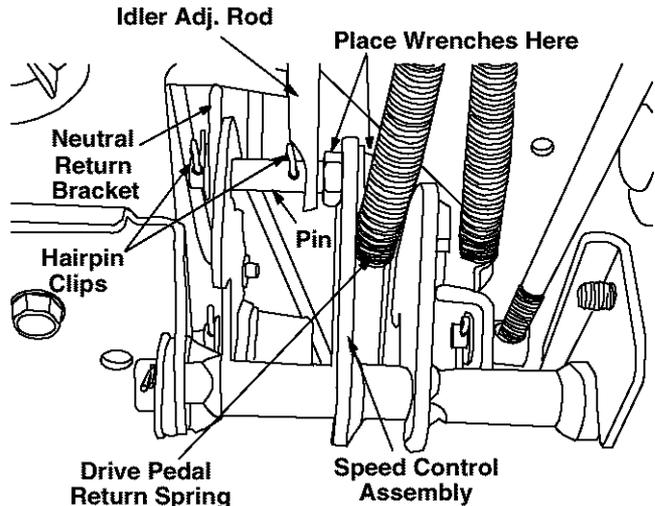

Figure 12
- Locate the speed control assembly on the underside of the steering support bracket. See Figure 12 .
- Remove both hairpin clips from the pin which is fastened to the speed control assembly (be careful not to lose the small flat washers on the pin). See Figure 12 .
- Using two 9/16" wrenches, remove the pin from the speed control assembly. See Figure 12 .